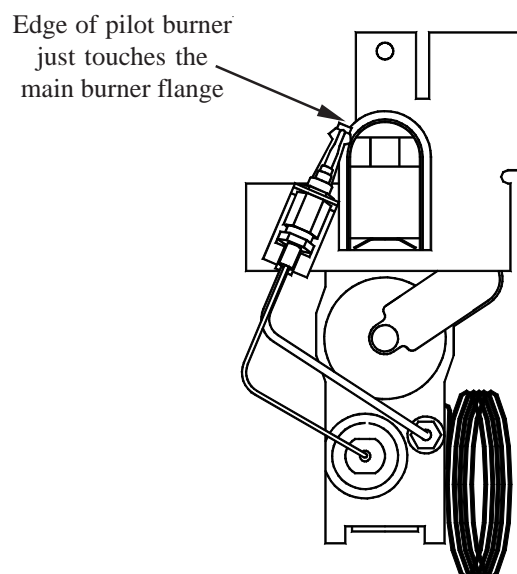

Fig. 6
- 8.2.6 Refitment or replacement is in reverse order, ensuring that the thermocouple connection at the Multifunctional control is not overtightened (finger tight + ¼ turn only), and the relationship between the pilot assembly and the Main burner is as shown in fig. 6.
- 7.4.5 Refitment or replacement is in reverse order, ensuring that the main burner is screwed in as close as possible to the injector shoulder, and the relationship between the pilot assembly and the Main burner is as shown in fig. 6.